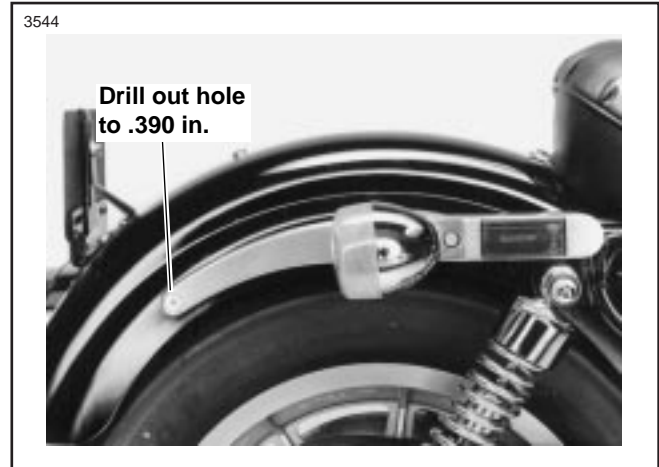

Figure 1. Rear Turn Signal and Fender Support Bracket
3. See Figure 1. Remove the screw, nut, and washer from the rearmost hole in the fender support bracket. After the hardware is removed, carefully drill out the rear hole of the fender support bracket and fender to a diameter of 0.390 in.